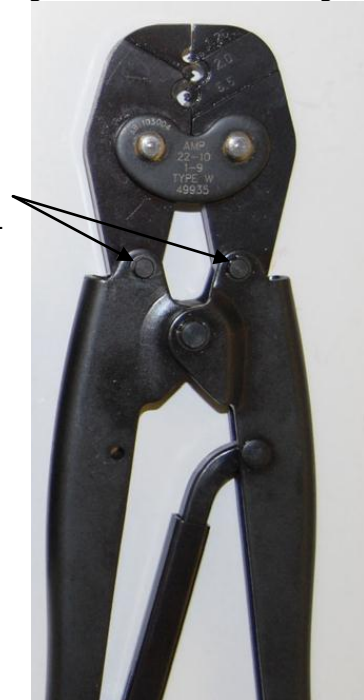

Figure 2. Remove Hand Tool Pins
2. Remove the tool head from the hand tool assembly (see figure 2).